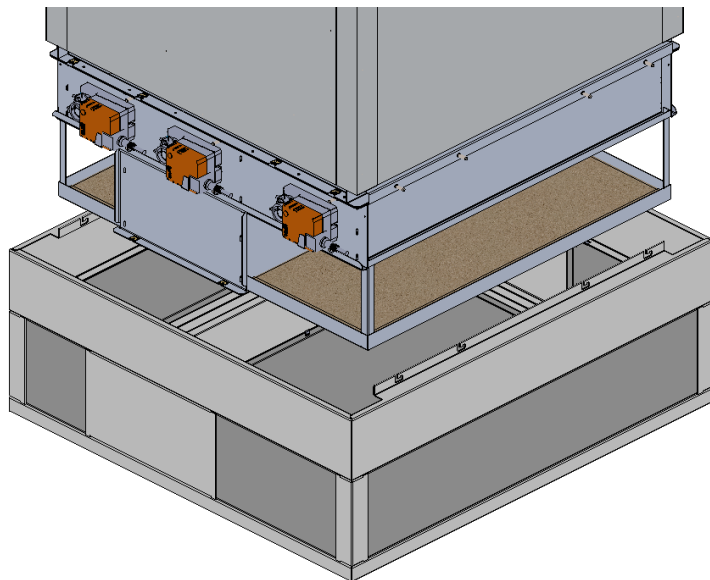

Figure 56 – Diffuser box position.
1. Offer the External Assembly over the Internal Assembly ensuring that it is in the correct orientation by aligning the arrows on both parts – *see figure 56.*